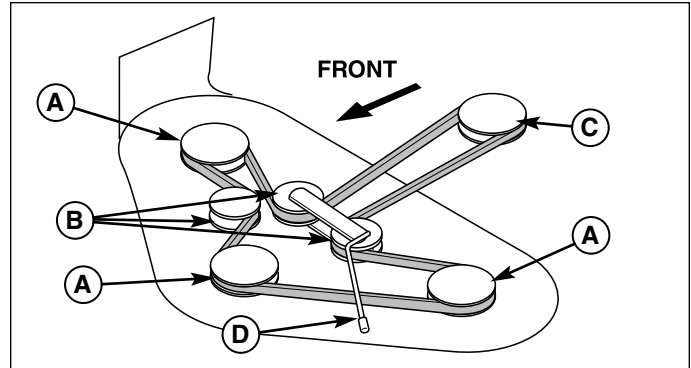
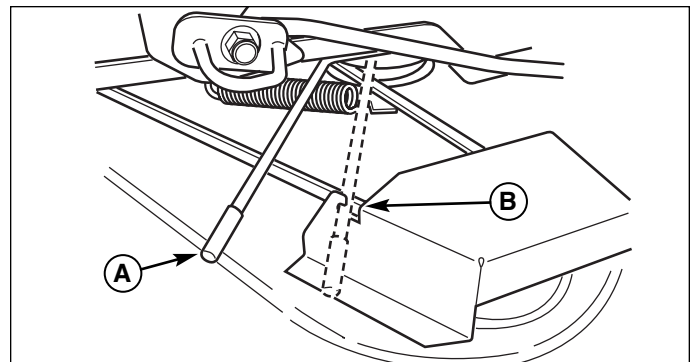

Figure 32. Mower Belt Routing
Figure 33. Release Belt Tension
2. Raise the mower deck to transport position. Pull the lever (A, Figure 33) towards the rear of the machine to release tension on the mower belt. Secure the lever in the guard notch (B).
3. Remove the old drive belt and install the new one as shown in Figure 32. Note that the back of the drive belt must ride against the back-side idler pulleys (B). Use the belt tension lever (A, Figure 33) to release tension on the idler pulley for installation.